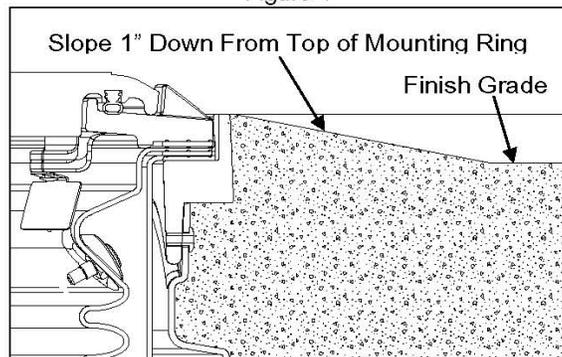

Figure 5
**Note:** Nipple length is determined by measuring from the bottom of the threaded portion of the base to the bottom of the cover. Then subtract 2" minimum for clearance, height of adaptor and height of cap. Range of nipple lengths that can be used in all of the OPW spill containers: 4" minimum to 9" maximum. See Figure 5.
Before pouring concrete, place plastic over the cover and Mounting Ring protecting them from concrete splash and tighten the clamp on the gravel guard mounted on the riser pipe. Double check that the unit is level and at proper grade height. Pour concrete per Figure 5. Ramp or dome the concrete away from the mounting ring. There should be a minimum of 1" slope to finish grade.